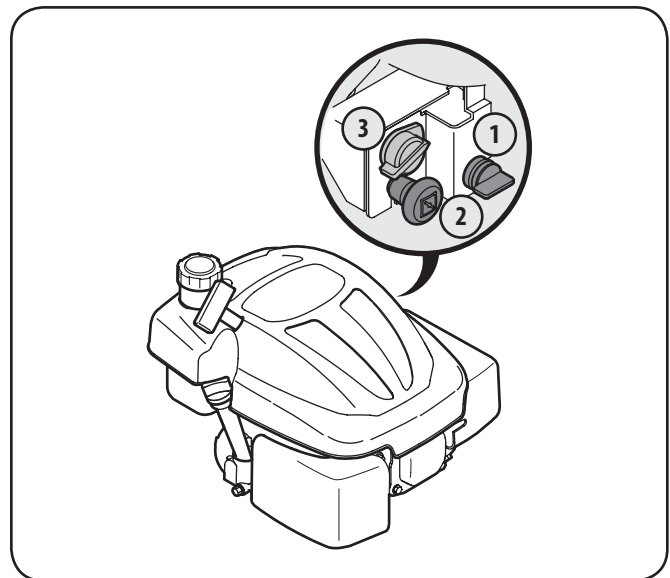

Figure 5-2
1. If equipped, turn on fuel valve located on the engine. See Figure 5-2.